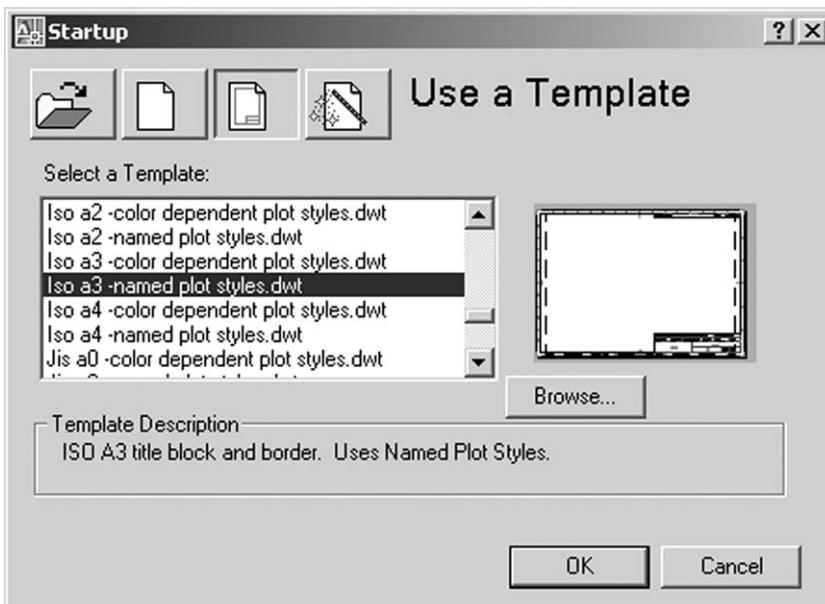

Figure 6.1 Starting with the AutoCAD template file: Iso a3 – named plot styles.
b) scroll and pick: **Iso a3 – named plot styles.dwt** – Figure 6.1